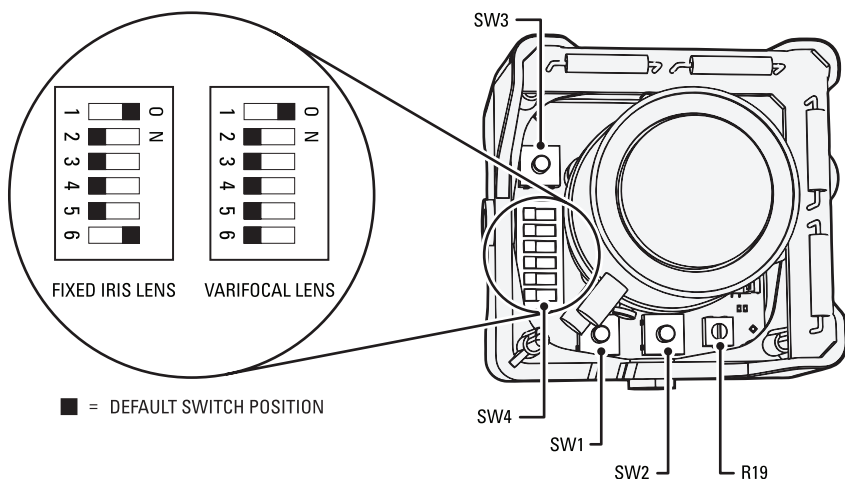

Figure 9. Adjusting the IS310-DN/CH Series Camclosure
Refer to Figure 9 to adjust the IS310-DN or IS310-CH model.
To adjust the auto iris DC drive level (refer to Figure 9 on page 9):
2. Select the camera to synchronize. Use buttons SW1 and SW2 to synchronize the camera to the reference camera (refer to Figure 9 on page 9). SW1 increases vertical phase; SW2 decreases vertical phase.
To manually correct defective pixels (refer to Figure 9 on page 9):